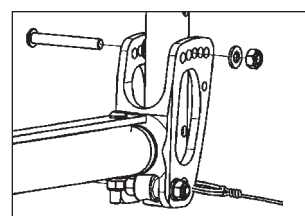

Figure 1
1. Open the upper screws and loosen the screw connection (Figure 1).